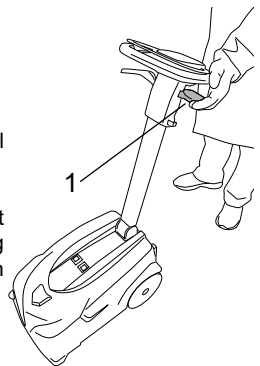

Fig. 18
This machine can dry the floor moving both forward and in reverse. To operate the drying function in reverse, pull the lever upwards (fig. 18, ref. 1).